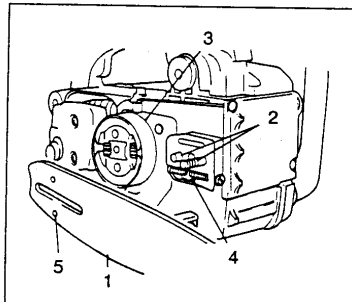

Fig. 1-2
3. Install, the chain bar (1) onto the bolts (2), then push it toward the sprocket (3) as far as it will go. Make sure that the boss of chain tension adjust bolt (4) fits into the hole of the bar (5). (Fig. 1-2)